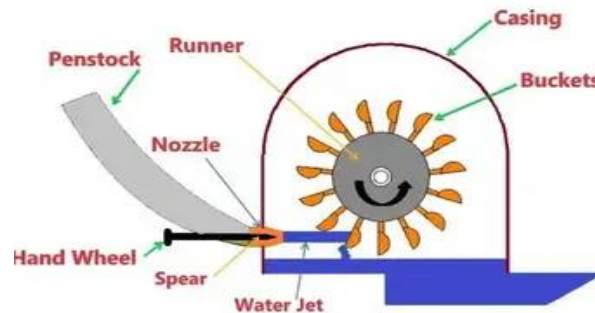

Fig. 8: Pelton wheel turbine apparatus.
- 9.1. Determine the kinetic energy of water at high heads into mechanical power, generating efficient and sustainable electricity in mountainous regions in fig.8
- 9.2. Calculate the overall efficiency of Pelton turbine. The testing apparatus are shown in fig. 8